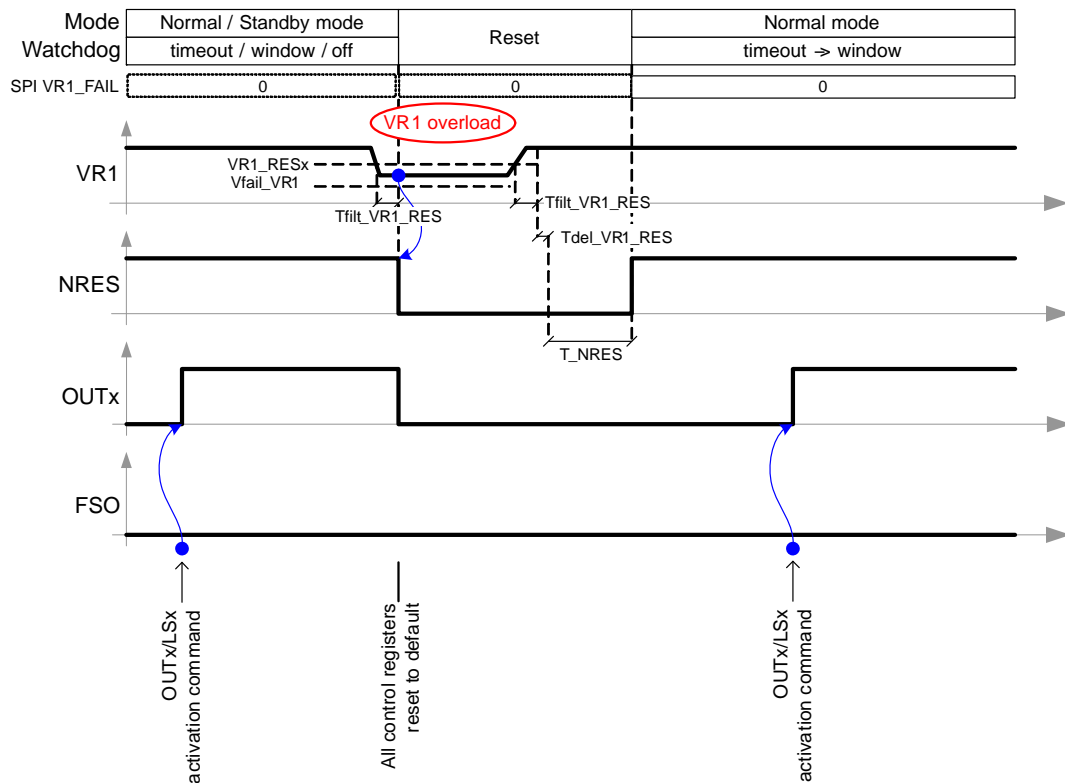

Figure 11. VR1 Monitoring – VR1 Undervoltage
- VR1 Reset Comparator – the VR1 regulator output is compared with a reset level *VR1\_RES* (programmable to typ. 74%, 79%, 87% and 91% of the nominal VR1 voltage). If the VR1 level drops below this level for longer than *Tfilt\_VR1\_RES* (typ. 16  $\mu$ s), a reset towards the MCU is generated through the NRES pin and all outputs (OUT1–3, LS1/2) are switched off and all the control registers are set to their defaults, except “FSO\_DIS” bit setting (see Figure 11).